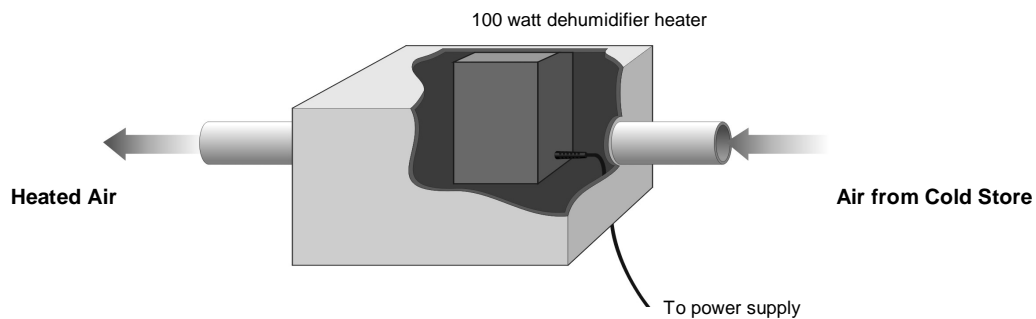

Figure 6 Heater Box Arrangement
- A heater box may be employed if the length of sampling pipe is not sufficient to allow the air to warm naturally. The heater is housed within an airtight box and is designed to raise the temperature of the sampled air before it reaches the VESDA detector. Refer to Figure 6.